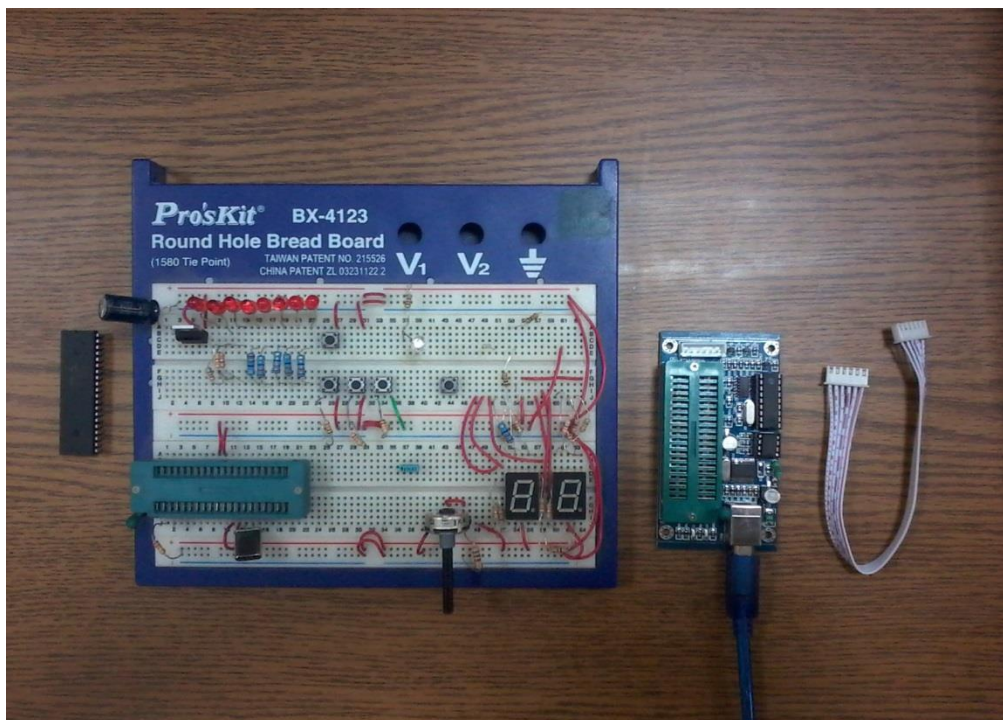

Figure 6.1: Equipment and devices used in the experiment.
3. Breadboard and electronic components as shown in Figure 6.1